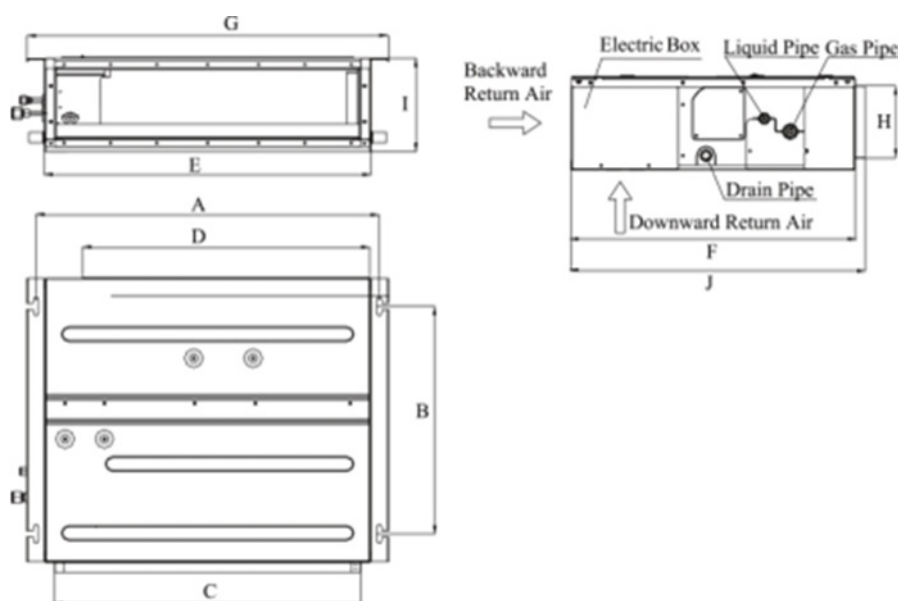

Figure 1: Indoor Unit Dimensions
- All dimensions are listed in millimetres (mm), unless otherwise specified. Figure 1 is applicable to LNMTDSS025V4, LNMTDSS035V4, LNMTDSS050V4, LNMTDSS060V4 and LNMTDSS071V4: